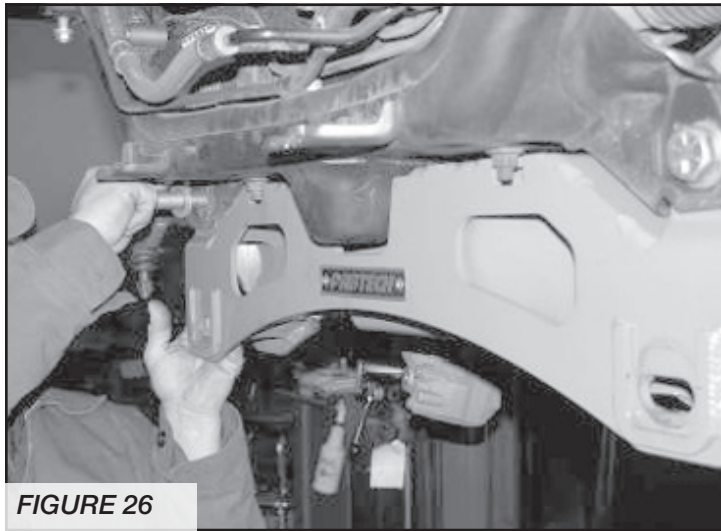

FIGURE 26
19. Locate the Fabtech front crossmember FT70162BK with the supplied  $\frac{3}{4}$ " x 4-1/2" bolts, nuts, and washers (BAG 1), attach the crossmember to the factory control arm pockets, leave loose at this time. **SEE FIGURE 26**